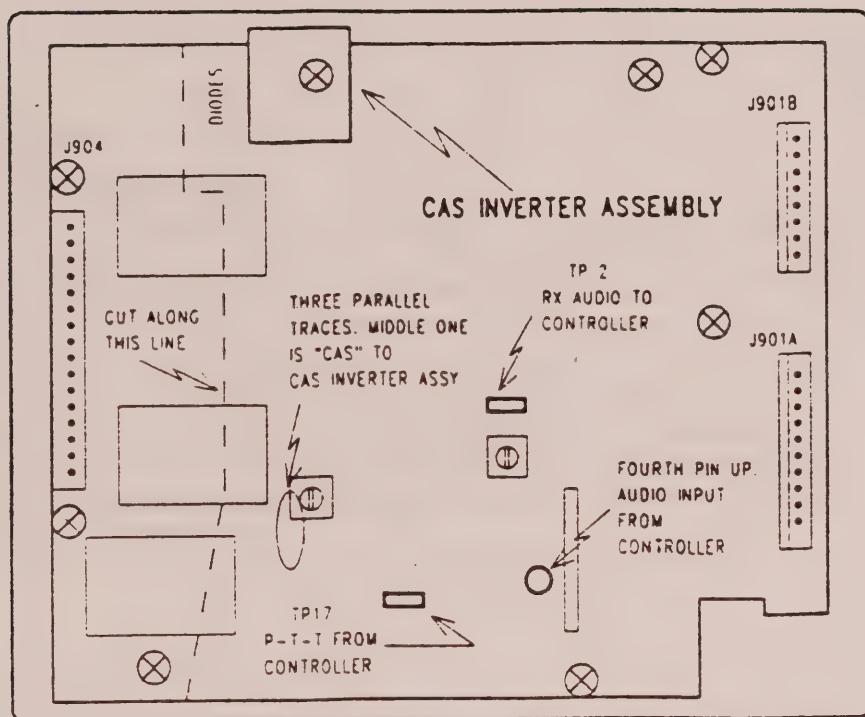

Figure 3-2. VEU System Board
4. Cut the Channel Guard modules off of the System Board as shown in Figure 3-2 below. Although exact path of cut is not critical, the units modified for this documentation used a path which started just left of the diodes shown to the left of the Receiver Audio Mute Assembly (shown as CAS Inverter Assembly in Figure 3-2) and proceeded roughly through the middle of the tone module housings as shown. The aluminum covers of the tone modules must be removed, as well as the modules themselves, before this cut can be made. Discard the Channel Guard portion of the System Board. Re-install the System Board in the radio deck and secure it with the required hardware (three screws will be left over).
Refer to Figure 3-2 for the location of test points mentioned in the following procedures.
3. Remove all wires from front panel connector which originate at J901B (upper right hand corner of assembly shown in Figure 3-2).
13. Solder the **White / Red** (center conductor) wire to P902 pin 4 (lower center of Figure 3-2). This is the audio from the external controller for the exciter.